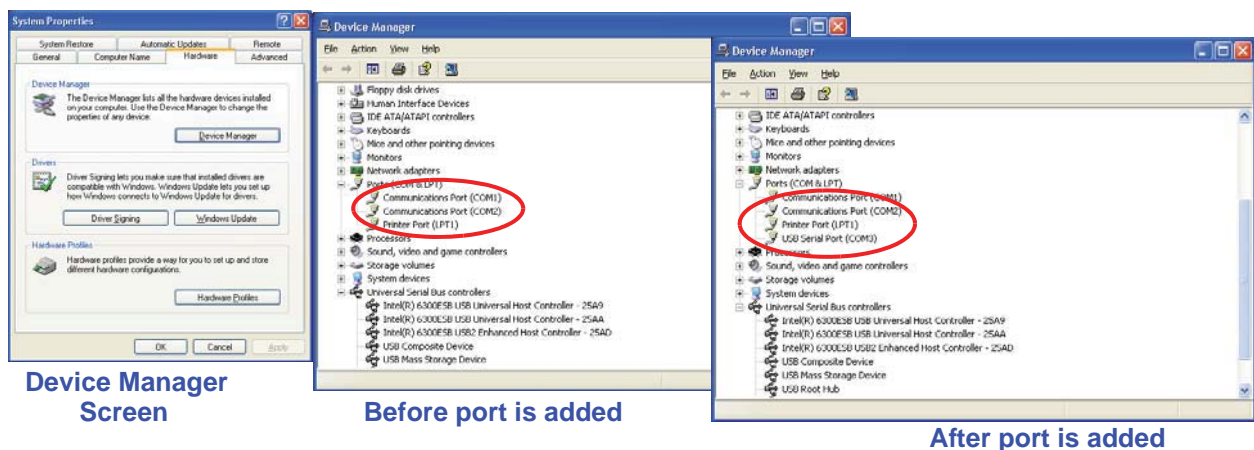

Figure 5-3 Example Device Manager Screens
6. Identify the computer port that has been added to the PC by using the “Properties” of My Computer and examining the COM ports. USB ports are generally added to the bottom of the list and named USB COM port “X”. Refer to Figure 5-3 for screen examples (Windows XP).